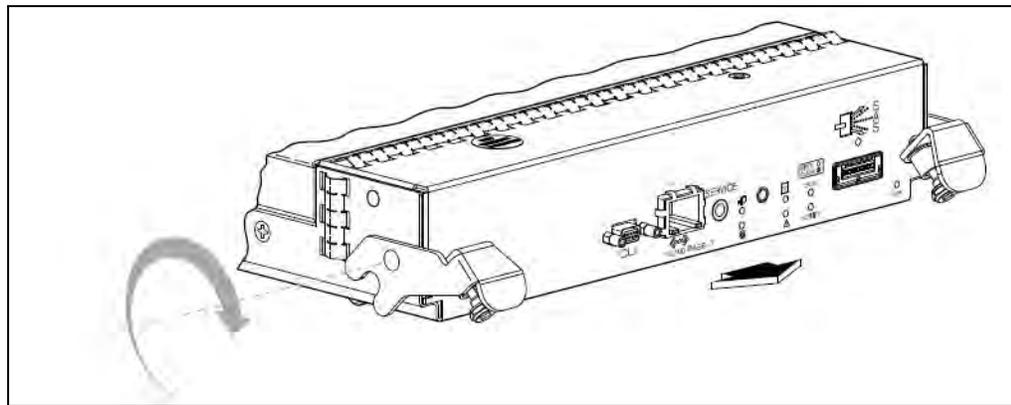

Figure 5.47 - Extracting a Controller Module
4. Press both latches downward to disconnect the module from the midplane (**Figure 5.47**).